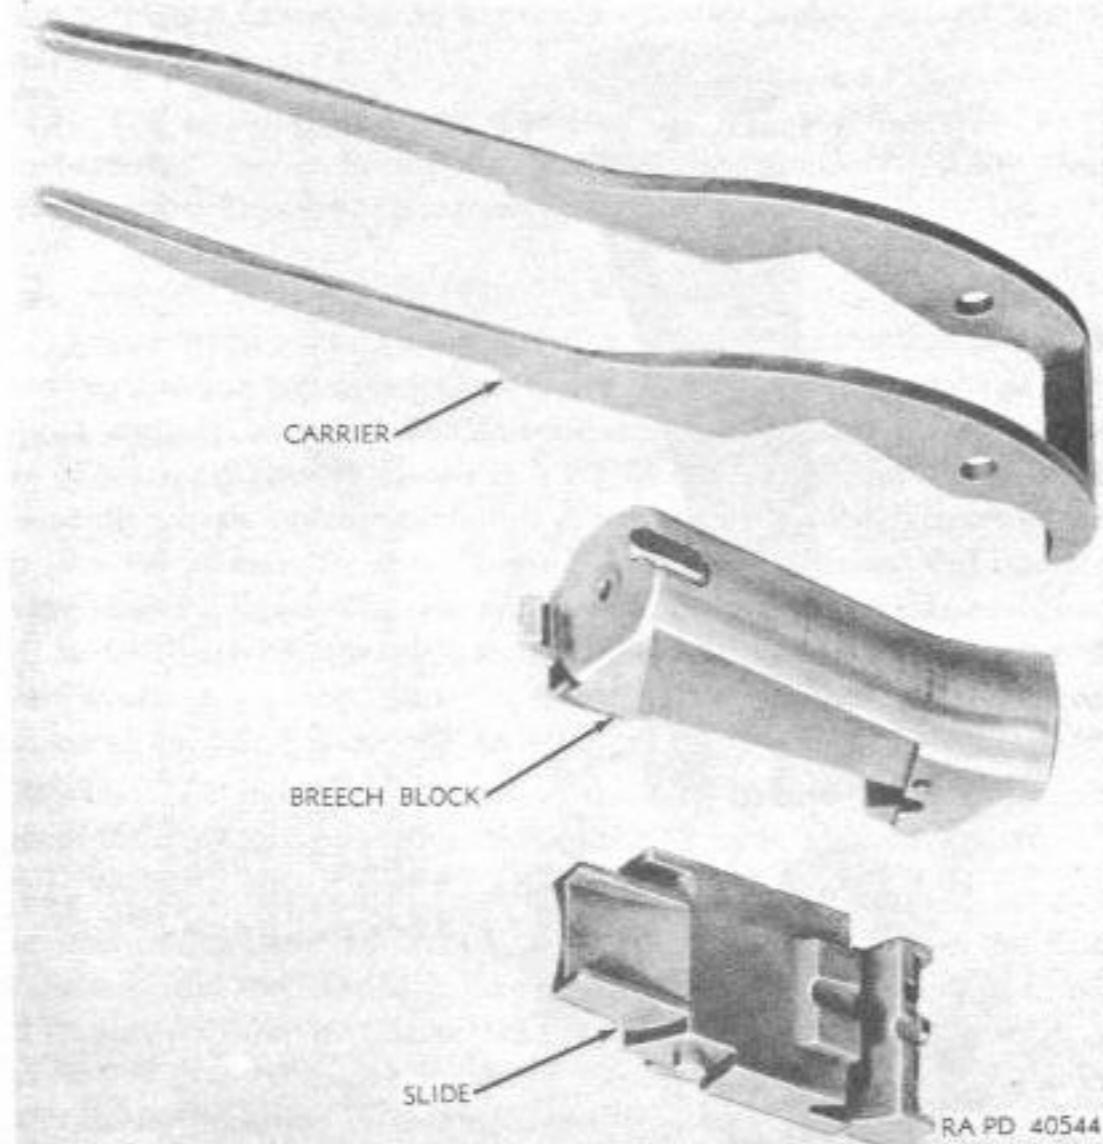

Figure 54—Carrier, Breechblock and Slide—Front, Top, and Left Side View—Ithaca Shotgun M37
(2) The receiver contains the operating mechanism and to its lower rear end is attached the trigger plate to which is mounted the firing mechanism and the slide stop. The receiver is open at the bottom to permit loading and the ejection of the fired shell cases. The carrier (figs. 54 and 55) is pivoted to the inside of the receiver and acts to raise the shells to the bore line in loading and ejects them when extracted from the barrel chamber by the extractors on the breechblock. The positive (right) and spring (left) shell stops are pivoted in the forward end of the receiver to the rear of the magazine opening.
(3) The breechblock (figs. 54 and 55) contains the extractors and the firing pin and their components, and mates with and is operated by the slide through the medium of a lug and hooked projection on the bottom of the breechblock seating in mating apertures in the slide. A projection on the rear top of the breechblock seats in front of a locking shoulder cut in the top of the receiver to lock the breechblock in position, when cammed up by the slide in the forward movement.
(4) The slide (figs. 54 and 55) is engaged with the slide bar, as already explained, by means of a spring pin passing laterally through the slide and rear end of the slide bar. The slide operates in guideways in the side walls of the receiver.
(5) The trigger plate contains the trigger, hammer, mainspring, slide stop, and safety together with their components.